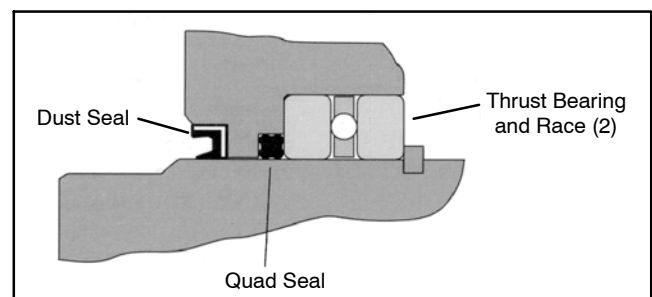

Figure 90
8. Put the thrust bearing and races into the housing. The thrust bearing goes between the two races (Fig. 90).